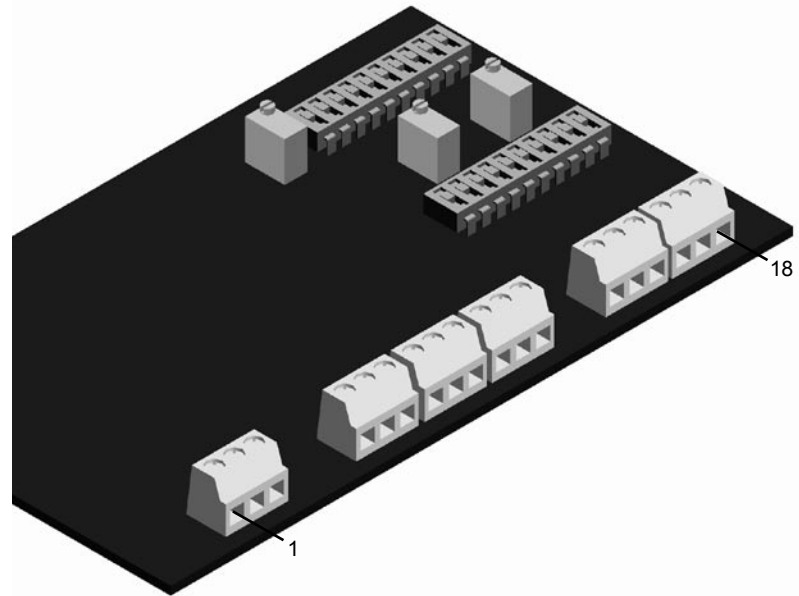

Fig. 5-11 : Connecting terminals
- Connect a voltmeter between the terminals 6 and 7 for voltage output or an amperemeter between the terminals 7 and 8 for current output (refer to figure 5-11 for the terminal location on the circuit board).